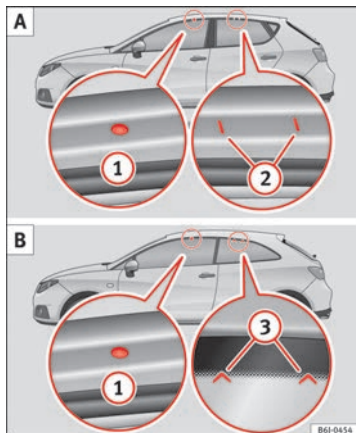

Fig. 103 Ibiza/Ibiza SC: attachment points for the roof railings for the roof carrier system.
The front and rear attachment points ① and ② are only visible when the doors are open ⇒ Fig. 103 A.
The front attachment points ① are only visible when the doors are open; the rear attachment points ③ are marked on the top edge of the glass with arrow heads ⇒ Fig. 103 B.